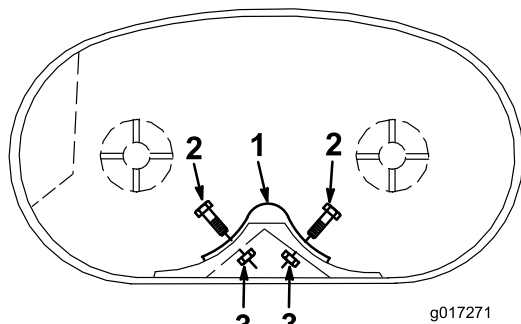

Figure 1
4. Center the rear baffle as shown in Figure 1. Install the rear baffle to the mower deck with 2 bolts (1/4 x 3/4 inches) and 2 lock nuts (1/4 inch).